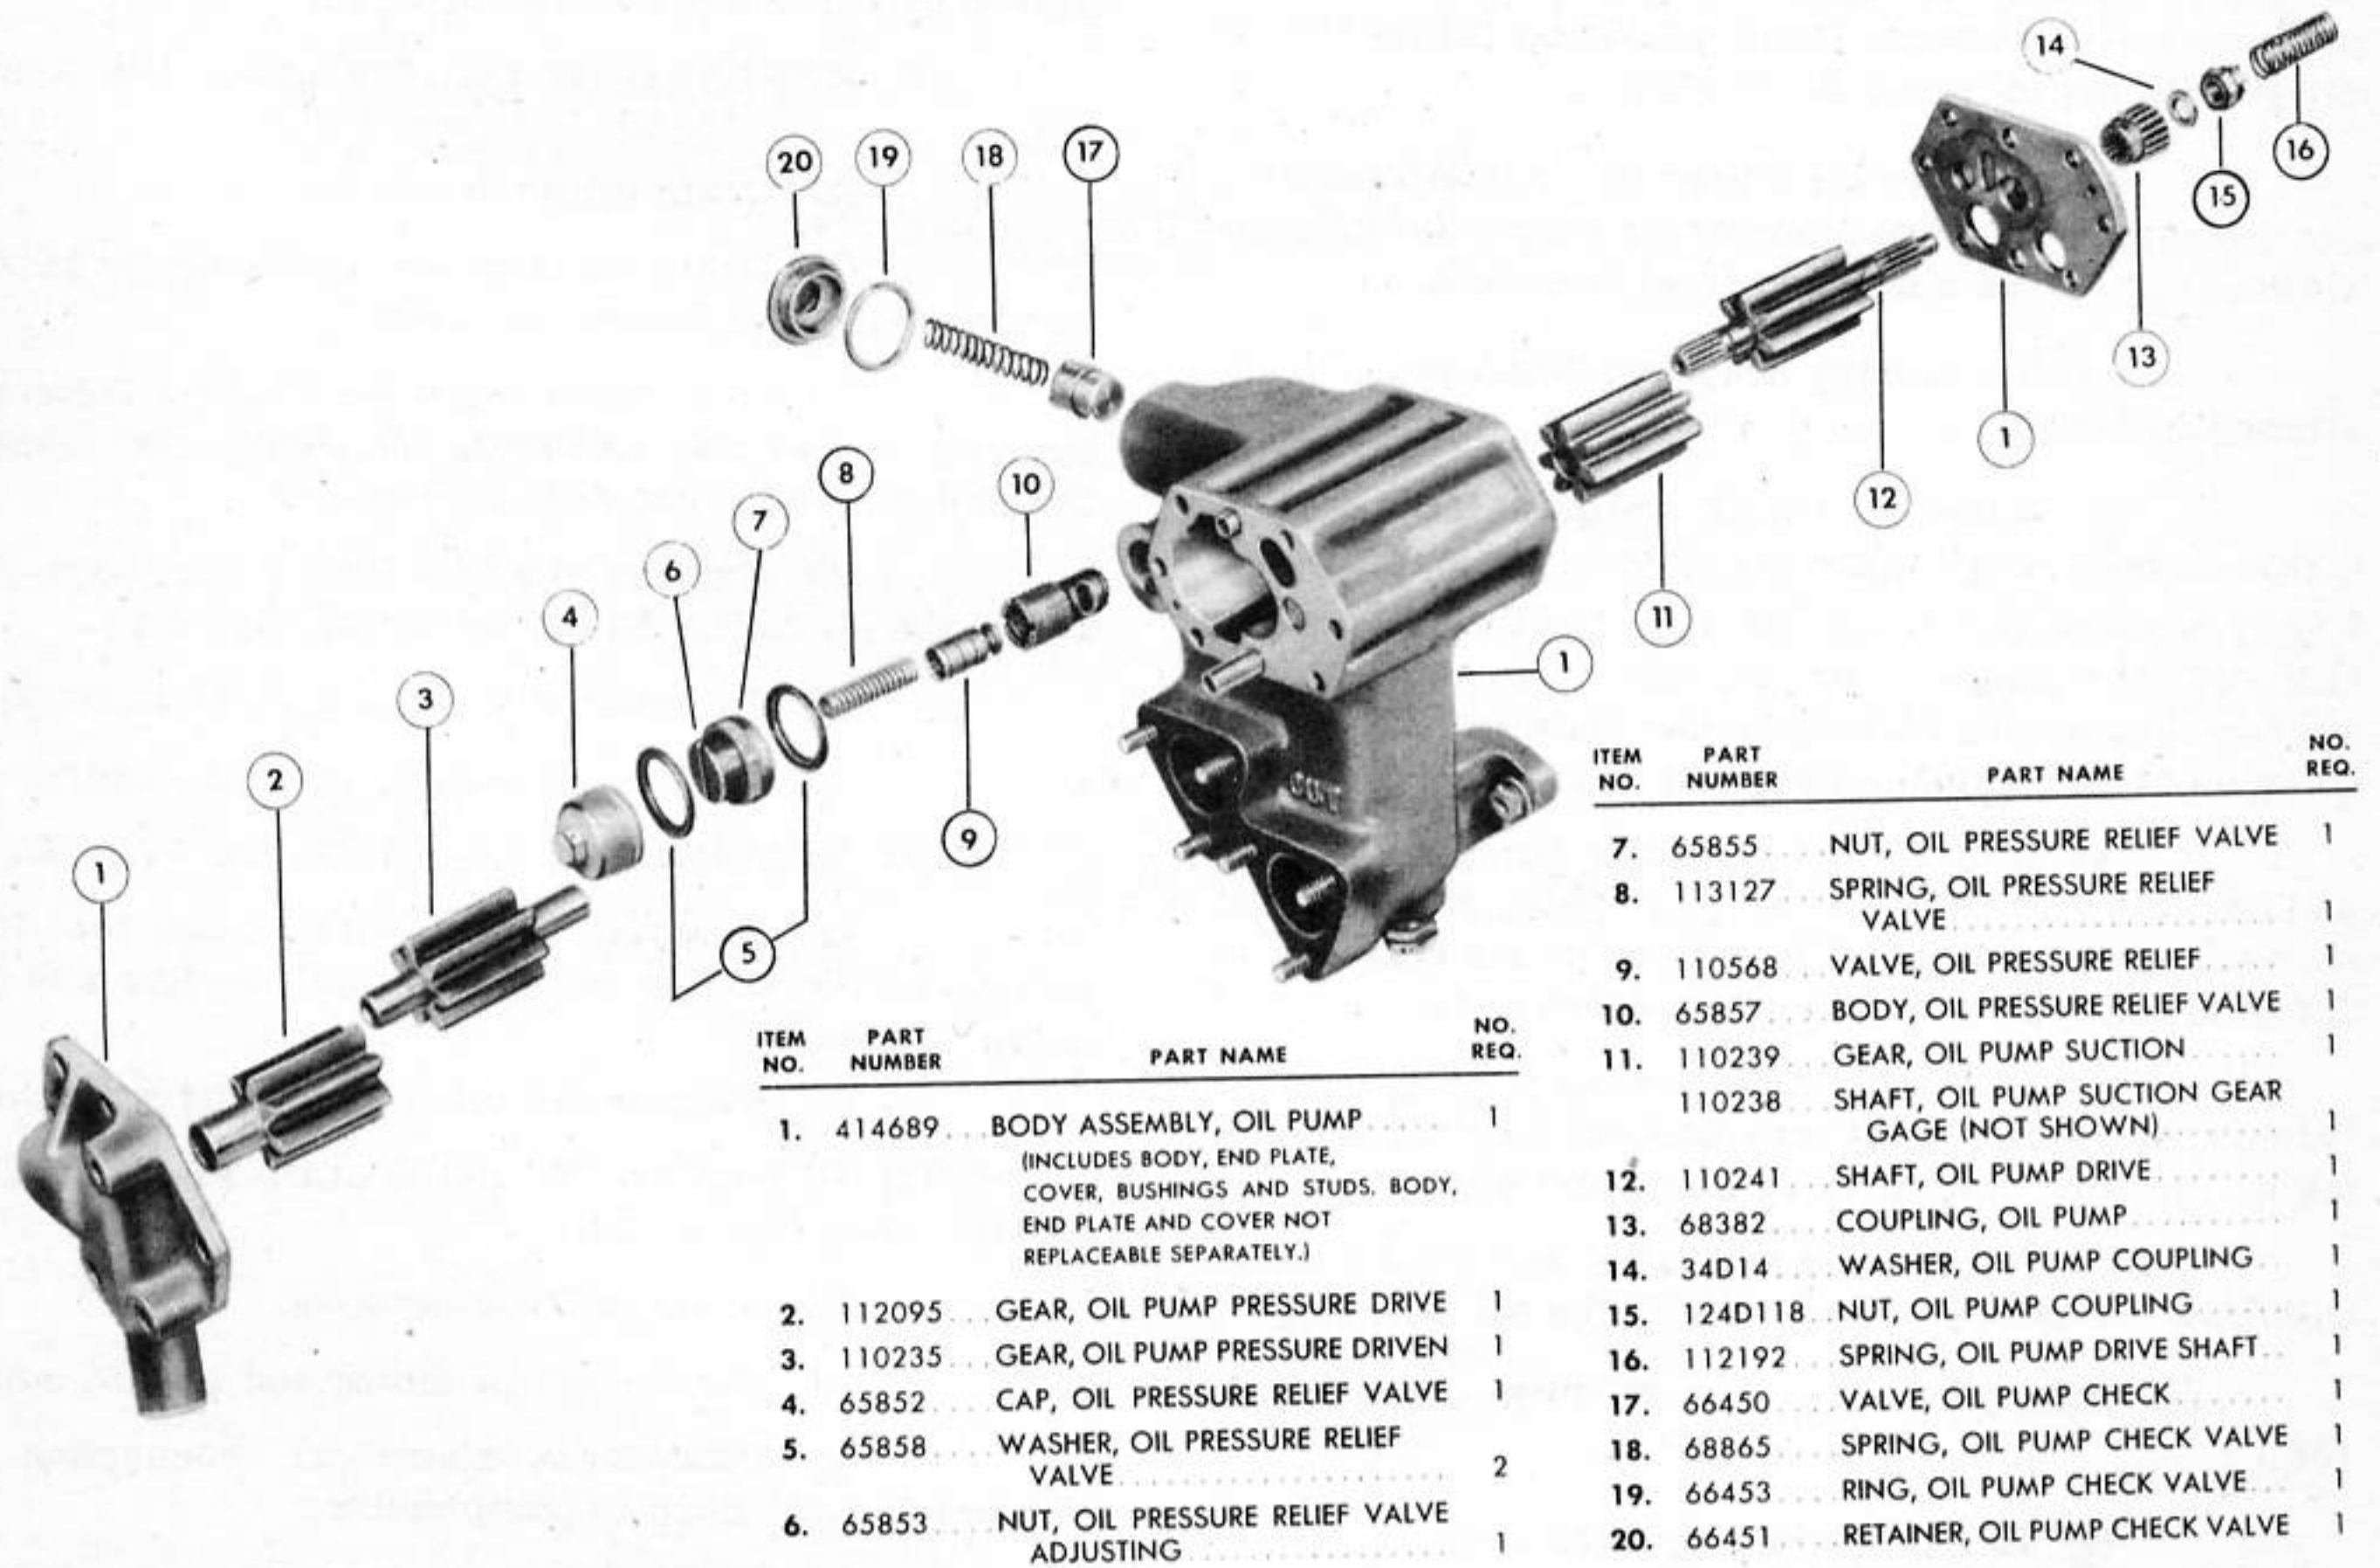

Figure 132 - EXPLODED VIEW OF ENGINE OIL PUMP
(5) DISASSEMBLY OF ENGINE OIL PUMP. (See figure 132.)
(5) ASSEMBLY OF ENGINE OIL PUMP. (See figure 132.)